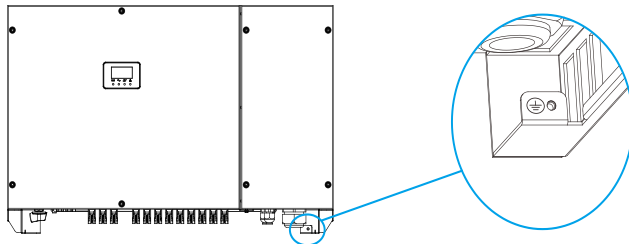

Figure 5.3 Securing the PGND cable to the ground point
- Step 3 : Remove the ground screw from the ground point, secure the PGND cable (from step 1 & 2) using the ground screw with a torque of 5 N•m, as shown in Figure 5.3. The PE (ground) wire must be well grounded to ensure that impedance between Neutral wire and Earth wire be less than  $10\Omega$ .